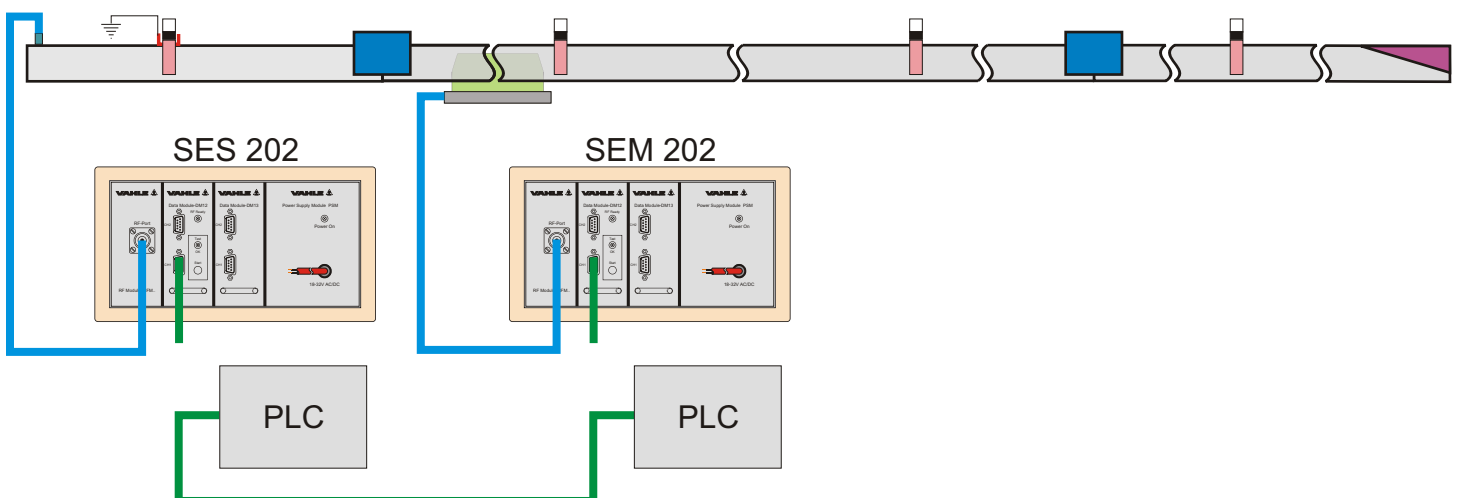

Figure 3 - Bypassing the Entire SMG System
Step 2 - If the RF and self-check are OK, bypass the entire SMG system with a new data cable between the two PLCs (see figure 3). If communication errors disappear, an SMG problem is confirmed. If communication errors persist, the SMG system is not at fault. Be certain the new data cable is properly connected to the assigned connector pins and the ground and shield are properly connected.